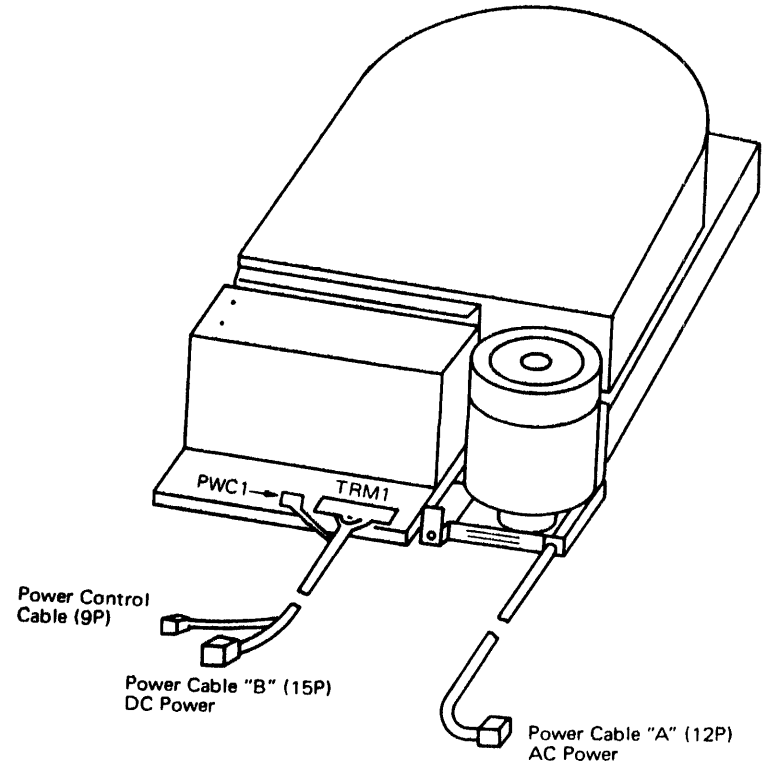

Figure 3-5-4 Power Cable Connection
The FDU M228X provides three power cables, AC cable, DC cable and Power Control cable. AC power connector (12P) is connected to PW1, DC power connector (15P) to PW2, and Power Control connector (9P) to CN18 respectively as shown in Figure 3-5-4.
- (2) The FG and SG terminals are provided with the optional power supply unit as shown in Figure 3-5-4. Connecting or disconnecting between FG and SG on the power supply unit can be performed according to system power distribution and system ground requirement.
(3) When the interface cable is longer than 3m (10 feet), an auxiliary grounding cable should be connected among the control unit and disk units.